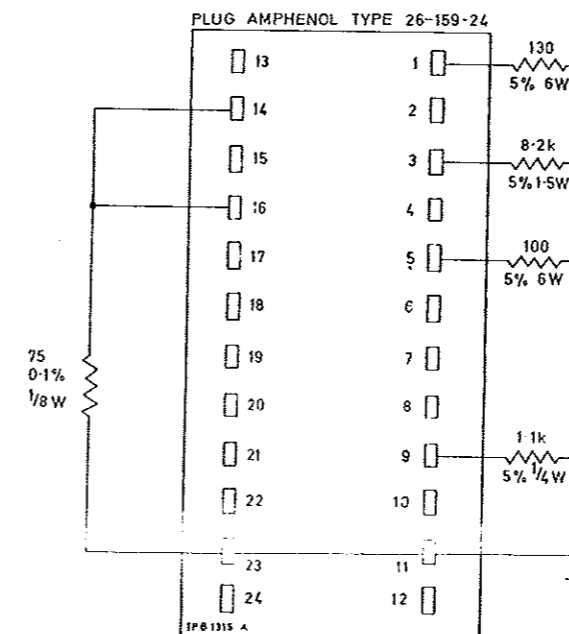

Fig. 4.1 Dummy load
- Dummy load, see Fig. 4.1.
Before commencing the performance checks, construct the dummy load according to Fig. 4.1. Remove the plug-in oscillator from the main unit, and connect the dummy load to the 24-way socket on the main unit. The performance checks should not be carried out with the plug-in oscillator in position, because faulty performance in the plug-in can be reflected back into the main unit.